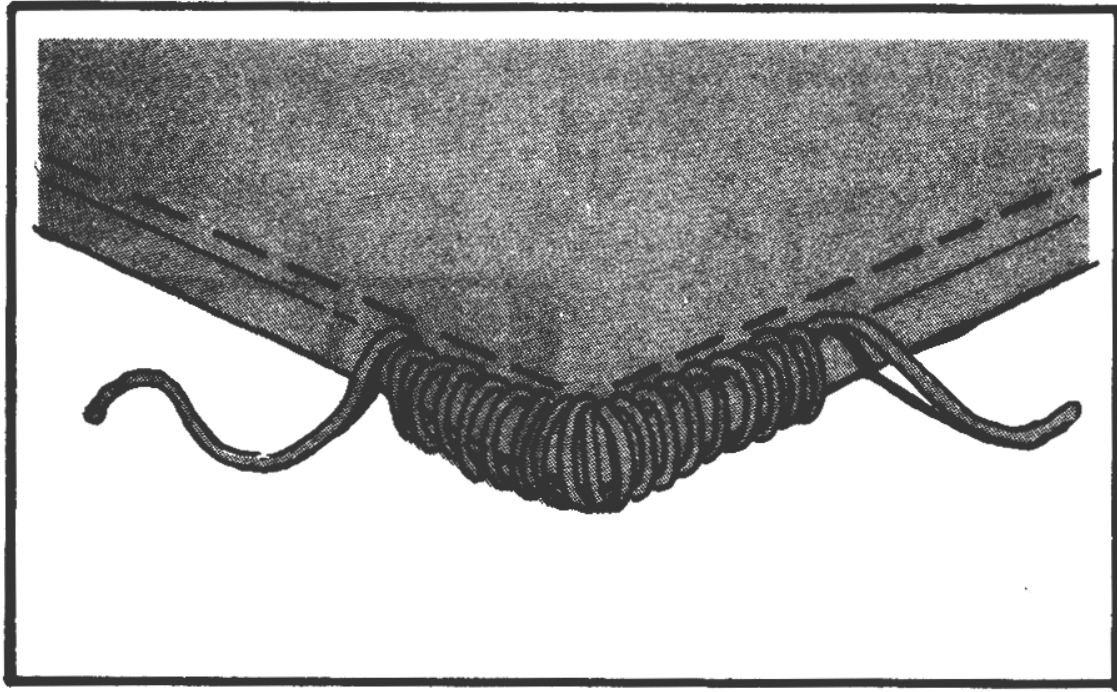

Figure 9-1. Overedge darn
- d. Overedge Darn. The overedge darn (Figure 9-1) is used to repair worn corded seams and bindings. It is not used on clothing. To make an overedge darn--
- (1) Turn the canvas item faceup.
- (2) Anchor the thread on the underside by sticking the needle up through the canvas near the cording.
- (3) Stick the needle back down into the canvas on the other side of the cording.
- (4) Continue to stitch around the cording in a circular or overhand fashion until the damaged area is covered.
- (5) Knot the thread on the underside near the cording, and cut the thread close to the knot.